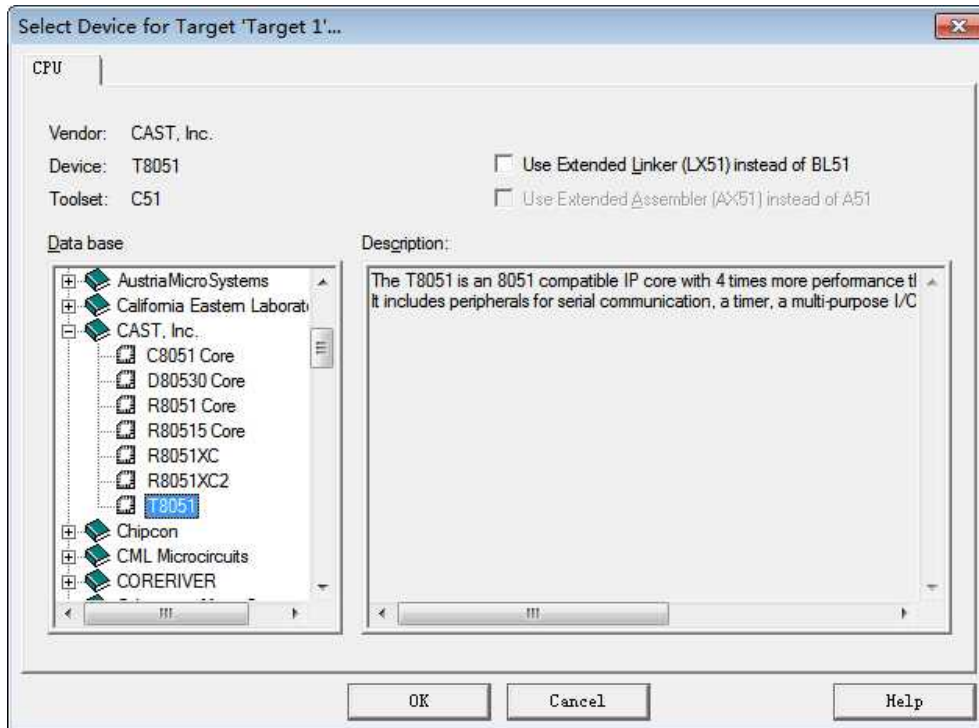
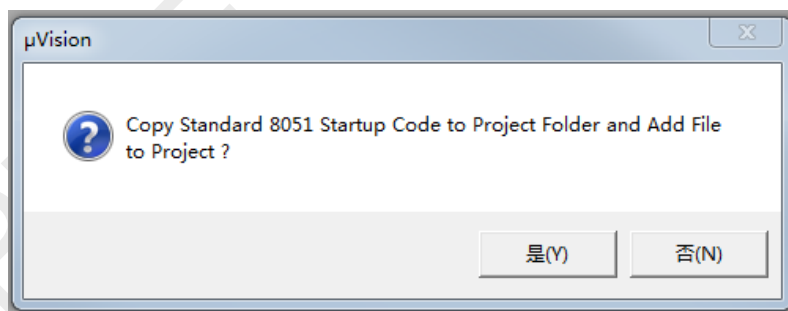

Figure 1-4. Select CPU Model
Figure 1-5. Generate Startup Code Window
- Step 3: Continue the previous step. After the project is successfully saved, the CPU device selection window will pop up. As shown in Figure 1-4 below, select T8051 core of CAST company and click the OK button. Then pop up interface of whether the STARTUP.A51 file is automatically generated, as shown in Figure 1-5.